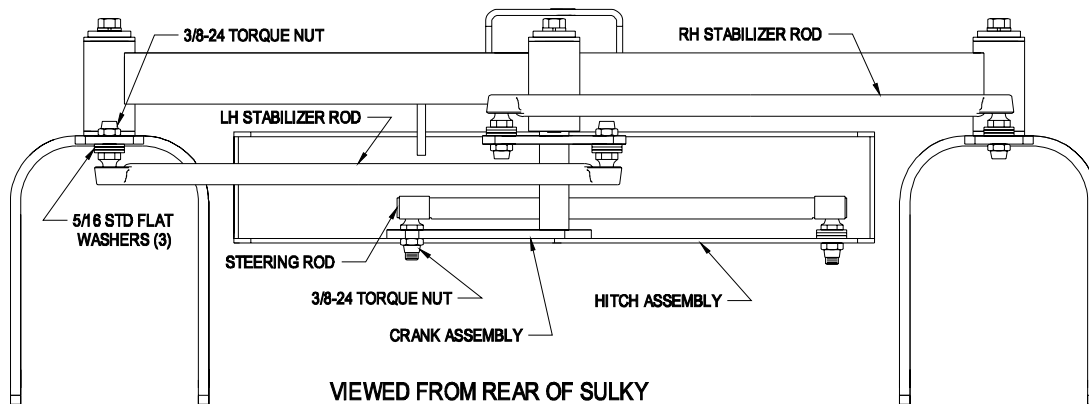

Figure 3
5. Install steering stabilizing rods. Place three (3) 5/16" standard flatwashers onto each ball stud at the ends of the stabilizing rods. Insert one end of the LH stabilizing rod up through the bottom side of the LH wheel steering arm and insert the other end through the bottom side of the right hole in the crank assembly, then fasten with two (2) 3/8" torque nuts. Insert one end of the RH stabilizing rod down through the top side of the RH wheel steering arm and insert the other end in the left hole in the crank assembly, then fasten with two (2) 3/8" torque nuts. See Figure 3.
6. Install the steering rod. Place three 3/8" standard flat washers onto the ball stud at one end of the steering rod. Insert the stud through the top side of the hole located on the hitch assembly RH lower section. Fasten with one 3/8" torque nut. Secure opposite end to the hole in the lower arm of the crank assembly. Fasten with one 3/8" torque nut. See Figure 3.
11. Make sure all five (5) grease fittings are properly greased.